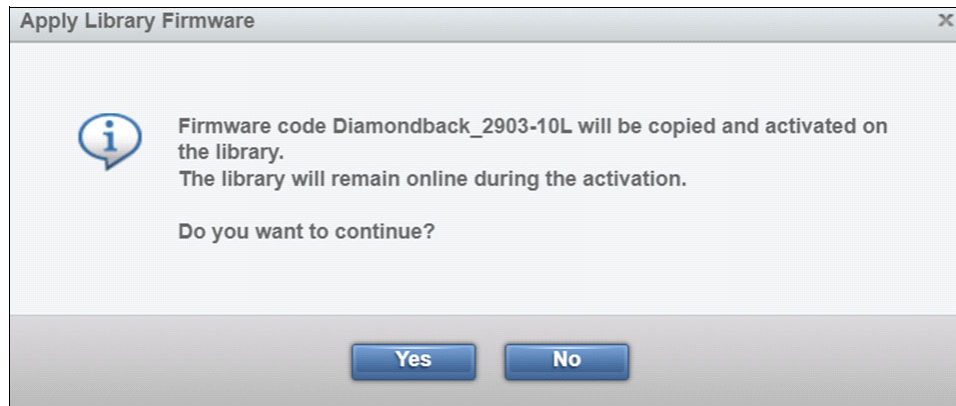

Figure 5-19 Firmware update confirmation
3. After it is selected, the Apply Library Firmware window opens. Confirm that the correct file was selected and click **Yes** to continue, as shown in Figure 5-19 on page 68.